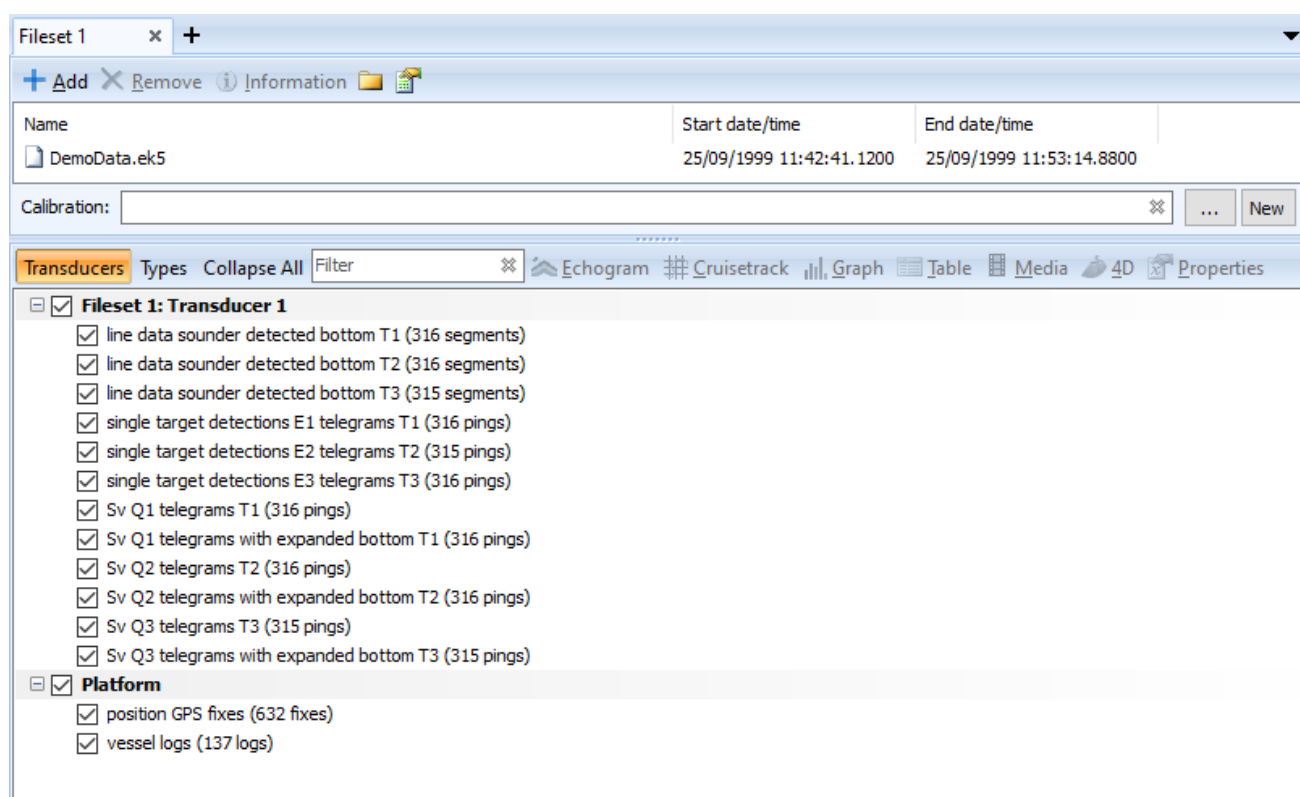

Figure 12. The Filesets window with the Demodata.ek5 data file added.
- Select the data file `DemoData.ek5` and click **Open**. This closes the explorer window and displays the `DemoData.ek5` file in the **Data Files** section of the Filesets window. This data file contains 14 raw variables that are listed in the **Raw Variables** section (see Figure 12) arranged with respect to Transducer.